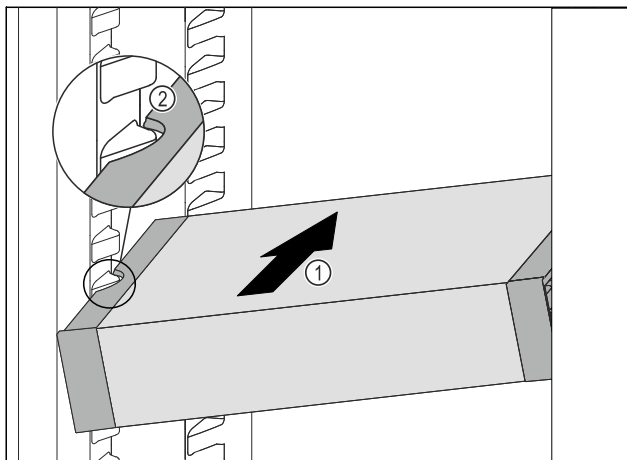

Fig. 130
- Insert the VarioSafe into the fridge section at an angle Fig. 130 (1) until the recesses in the side Fig. 130 (2) of the VarioSafe are at the level of the support rib in the fridge section.